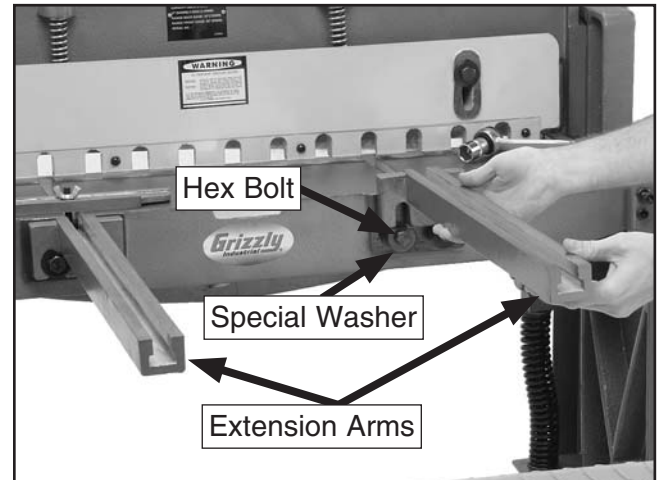

Figure 9. Front extension arm installed.
6. Place the front extension arms over the hex bolts and behind the special washers (**Figure 9**).